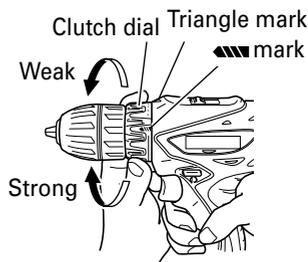

Fig. 9
6. Confirm the clutch dial position (see Fig. 9).
(2) Tightening torque indication (See Fig. 9)
- (3) Adjusting the tightening torque (See Fig. 9)